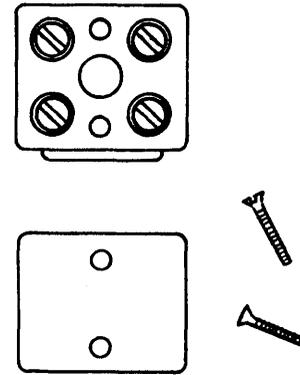

Figure 7. Murdock Number 41 Connecting Block.
2.06 Murdock number 41 and 42 blocks are equivalent to the WECO number 11C and 12F, but have a molded black phenolic cover held in place by two oval-head brass screws (Figure 7). A tongue-and-groove base structure permits alignment of adjacent blocks when several are mounted together. A tie-cord ring for strain relief purposes can be provided optionally on either type.